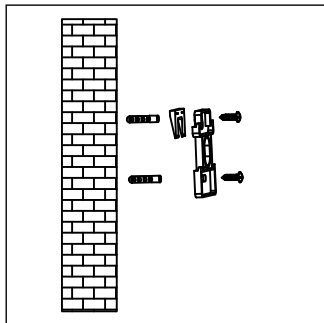

Fig.4
**Step 3:** Fix the wall plugs. If an angle installation is required use the angle accessory included (Fig.4).